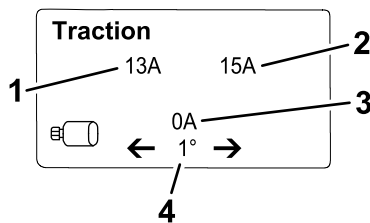

Figure 23
- **Traction information screen** (Figure 23): shows the current steering angle and the amperage allotted to each traction motor.